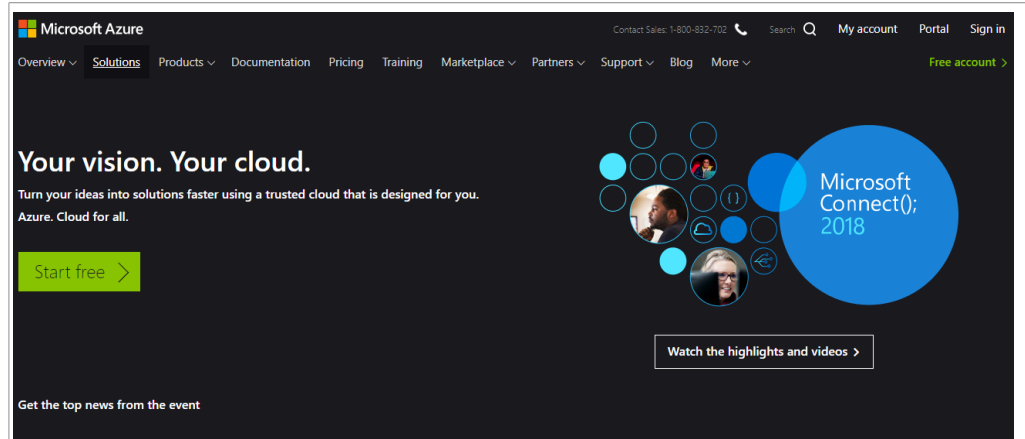

Figure 7. Azure subscription creation
1. Go to <https://www.azure.com> and click the green **Start free** button as shown in Figure 7: